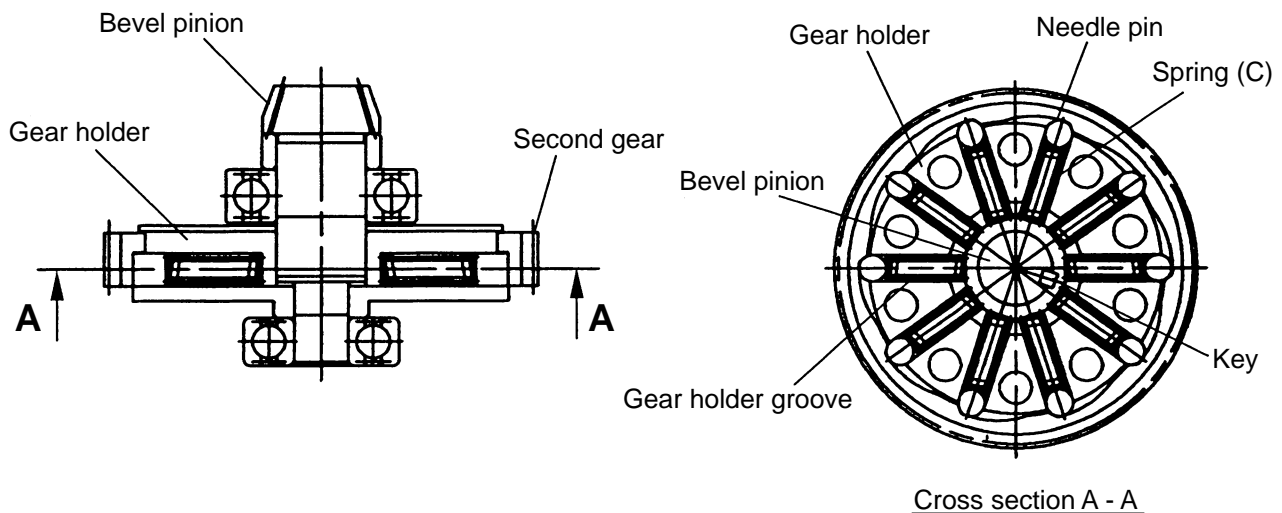

Fig. 5
The slip clutch mechanism is described below with reference to Fig. 5. The bevel pinion and the gear holder are coupled together by the key and press-fitting. Spring (C) and needle pins are housed in elongated grooves of the gear holder. The needle pin is pressed against the inner face of second gear by spring (C) to allow idle rotation of the second gear relative to the gear holder. When an excess torque is exerted on the bevel pinion shaft, the needle pin is raised upon the projection of the second gear against the load of spring (C) to allow idle rotation of the second gear. With the arrangement, the clutch slips when an excessive torque is applied to the working tool as when the drill bit contacts steel bar/wire in the concrete, protecting the operator from unexpected motion of the side handle.